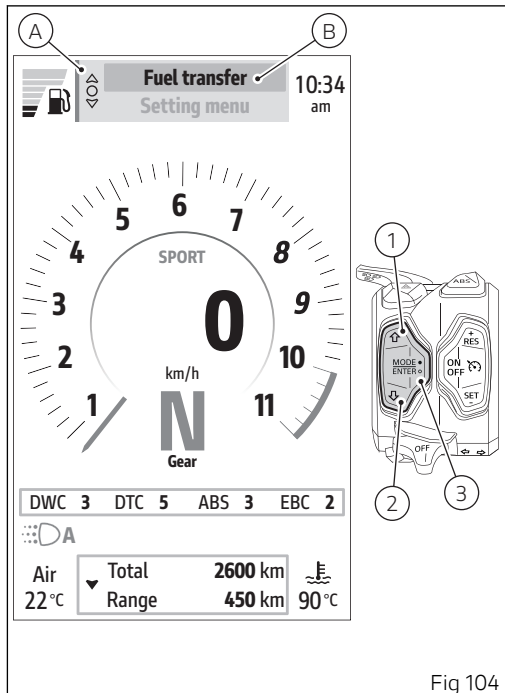

Fig 104
Use buttons (1) and (2) from the Interactive Menu to select item "Fuel transfer" (B, Fig 104) and press the ENTER button (3).